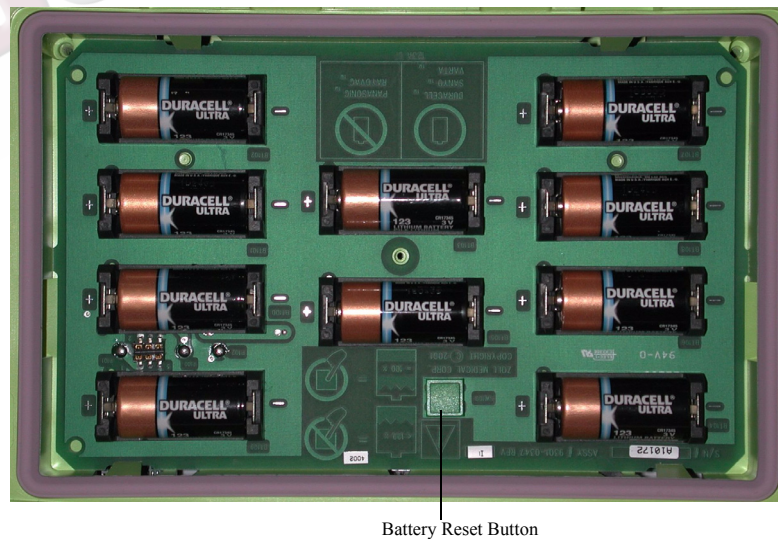

Figure 8: Battery Compartment
- After installing new batteries, press the Battery Reset Button inside the battery compartment when prompted (see Figure 8). Pressing the button resets the battery usage indicator to full charge.